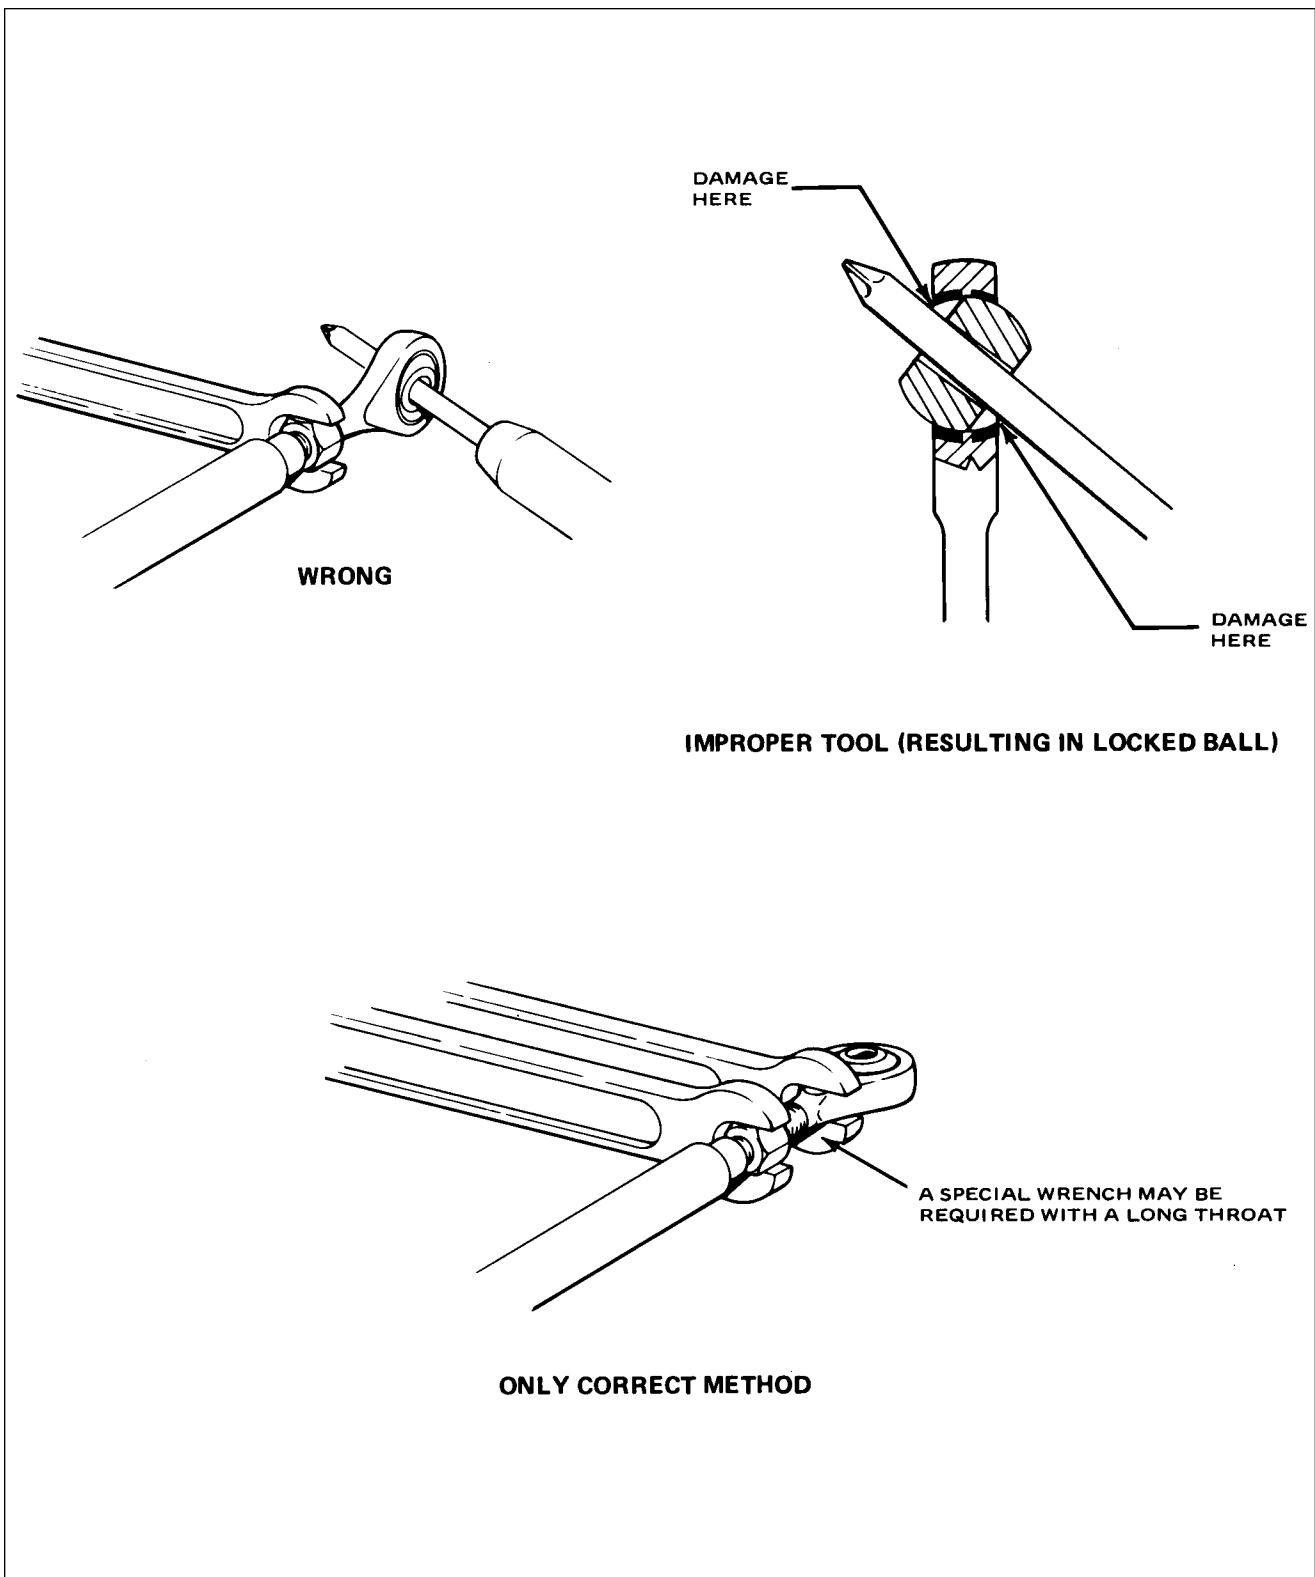

Figure 27-1. Rod End Installation Method
10. When installing rod end jam nuts, refer to Figure 27-1 for proper installation method.